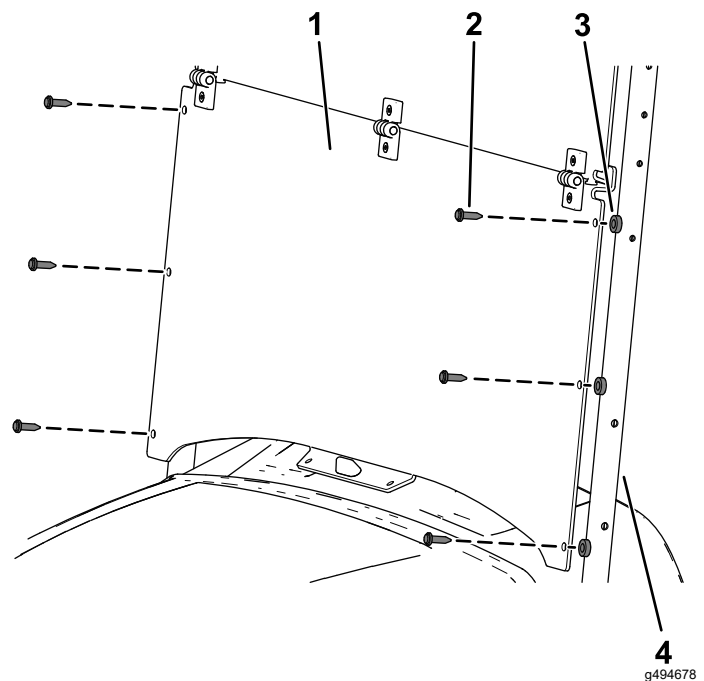

Figure 3
2. Align the holes in lower portion of the windshield with the holes in the canopy support tubes (Figure 3).
3. Secure the sides of the windshield to the canopy support tubes using 6 plastic spacers and 6 long plastic rivets (Figure 3).